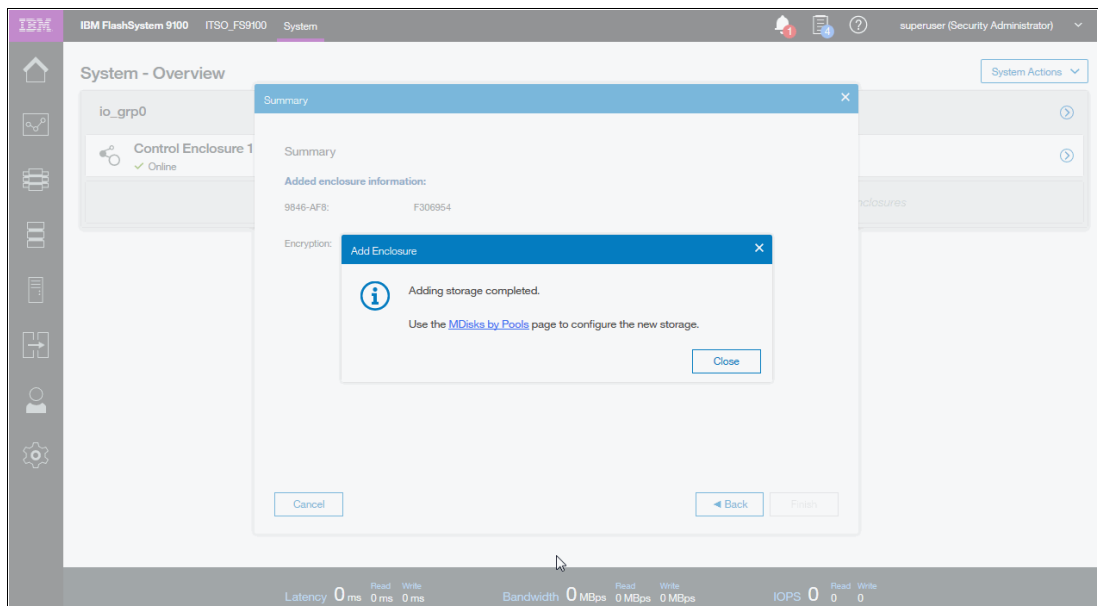

Figure 5-42 Add Control Enclosure completed
7. After the control enclosure has been successfully added to the system, a success message displays, as shown in Figure 5-42. Click **Close**.